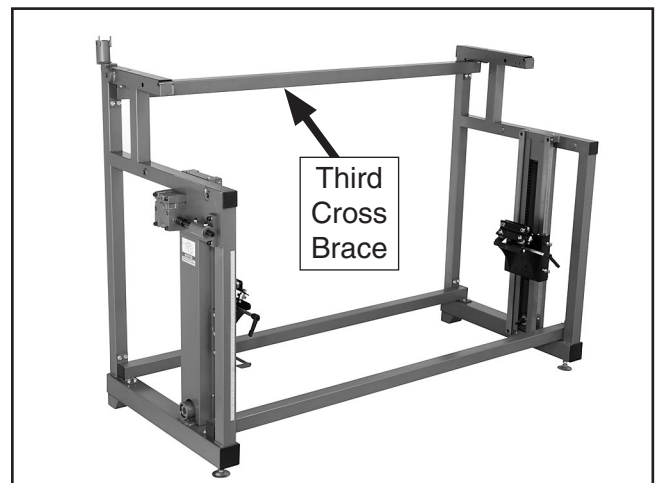

Figure 14. Third cross brace.
4. Attach the third cross brace to the top location of the uprights with (8) $\frac{5}{16}$ -18 x $\frac{1}{2}$ flange bolts, as shown in **Figure 14**. Use a square to make sure the machine is square vertically and horizontally, then tighten all 24 flange bolts.